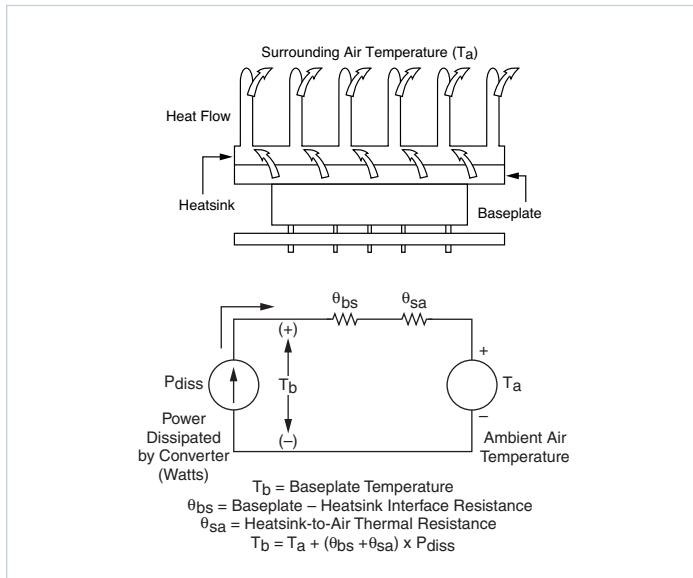

Figure 20.4 — Heat sink thermal considerations
The convection cooling model is shown in Figure 20.4. Baseplate temperature depends on the temperature of the air, total dissipated power and the values of two thermal resistances; the thermal resistance of the surface interface between the baseplate and the heat sink, and the heat sink-to-air thermal resistance. Surface interface resistance can be minimized as discussed under Conduction. The heat sink-to-air resistance is dependent on a variety of factors including heat sink material and geometry, air temperature, air density and air flow rate. Fortunately, thermal resistance data is available for a very wide range of standard heat sinks for use in both free and forced convection applications. The following sections will provide guidelines for both free and forced convection cooling of Vicor converters and configurables.
3. Referencing Figure 20.4, we can derive the following formula for heat sink-to-air thermal resistance: